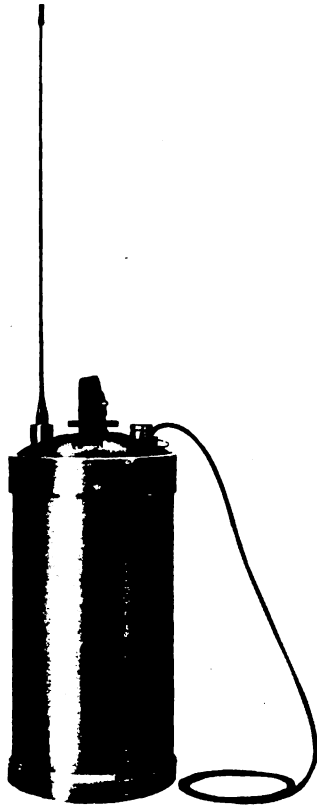

Figure 14. Receiver, with antenna attached.
- (2) For land mine detonation, the antenna is connected directly to the receiver (fig. 14). To prevent leakage use the special wrench (fig. 19) to tighten the antenna to the connector.